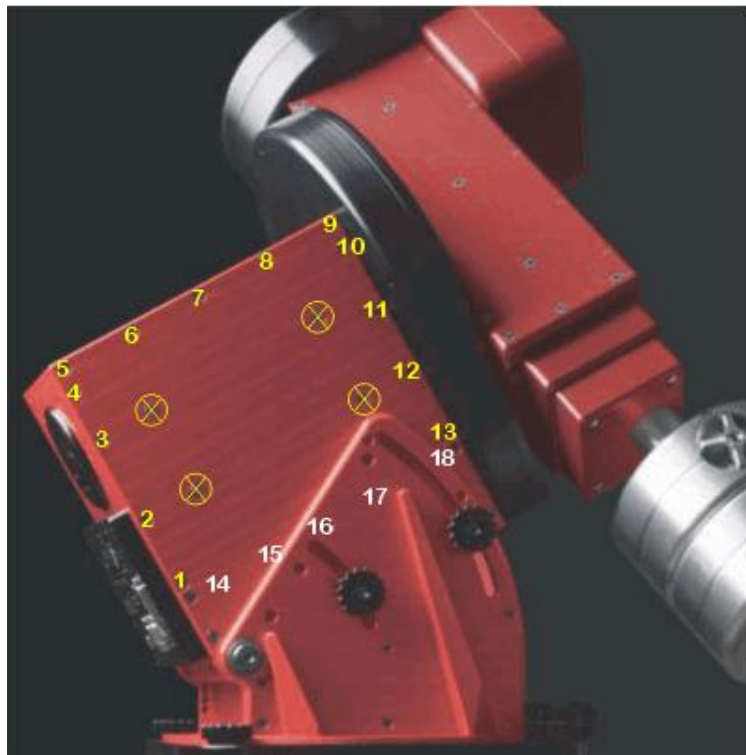

Figure 35: The above photograph shows the location of the screws that must be removed before removing the RA Side Panel.
Remove the RA box panel on the East side of the mount (see Figure 35). This involves removing eighteen screws:
- Thirteen ¼-in. flat socket cap screws surrounding the RA panel (numbers 1-13 in Figure 35).